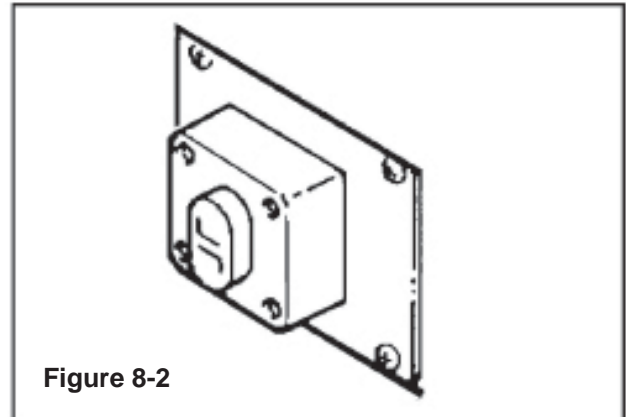

Figure 8-2
- The Main Start Switch "ON" (I) (**Figure 8-2**)